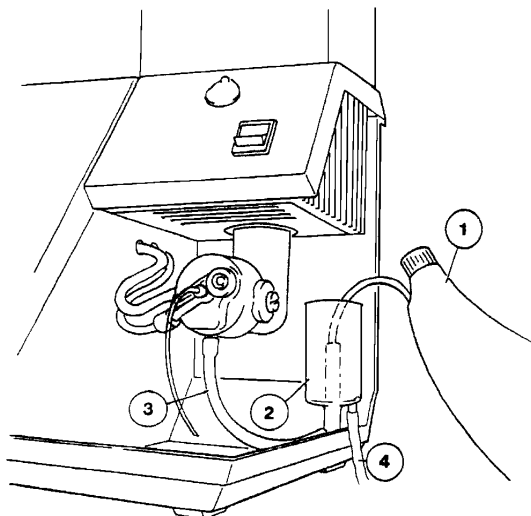

Figure 2.4 Filling the 'U' tube
8. Fit the constant head & drain (Gas Trap) on the two retaining screws (see below). Fit the drain tubing (400 22 002) (item 4, figure 2.4) to the outlet on the constant head and drain. If necessary connect a suitable length of tubing (not supplied), to extend the drain tubing to carry waste to a sink or other drain receptacle. The downward flow of waste must not be restricted.
9. Make sure that the constant head and drain is pushed fully down on its mounting screws. Use a wash bottle (item 1, figure 2.4) to fill the 'U' tube with deionised water. Sufficient water should be used to purge the tube of air. Allow excess water to flow back into the drain.